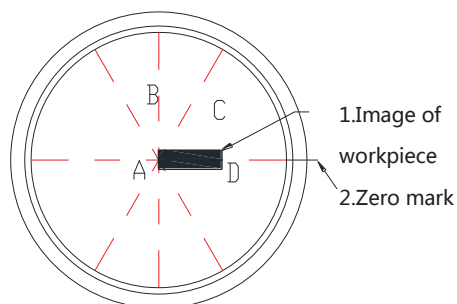

Fig 8 Single coordinate measurement
6.2.1.3 To adjust the direction of the workpiece to be measured in parallel with the measuring axis, as shown in Figure 8, the BC edge is parallel to the X axis.